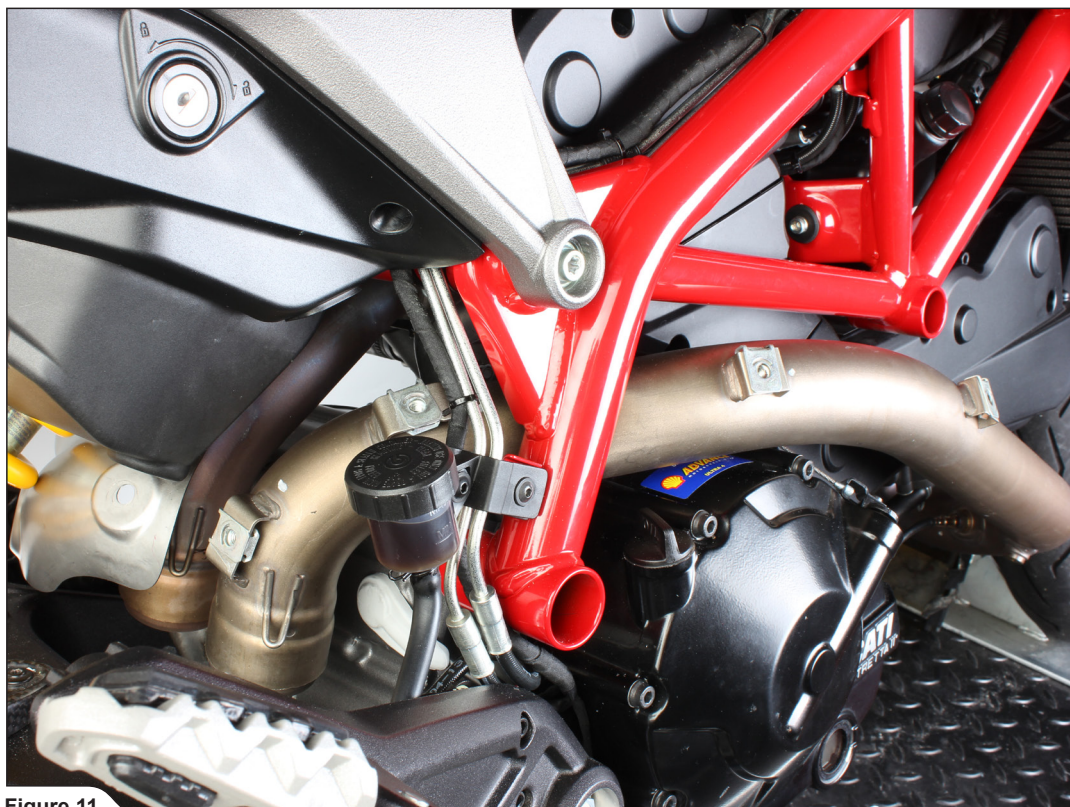

Figure 11
11. Partially remove the rear heat shield and remove the front heat shield (**Figure 11**).